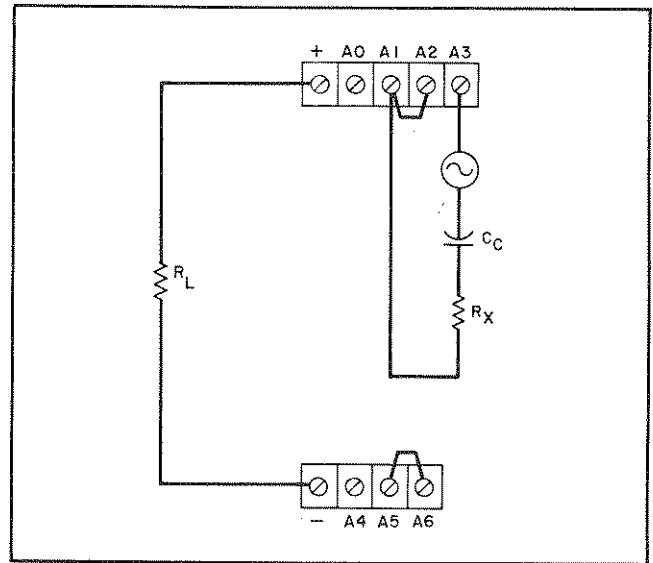

Figure 3-8. External AC Modulation
3-34 Figure 3-8 shows a method of superimposing an ac component on top of the adjustable dc output current of the supply. The dc current level is controlled in the normal fashion from the front panel, while the ac component of the output current is determined by the modulation percentage. The percentage of modulation is determined by the amplitude of the external voltage input and the value of the series resistance according to the following formula: $\% \text{ Modulation} = 100 \left[\frac{E_{\text{source}} (p-p)}{R_X} \right]$ (in K_{Ω}). The programming voltage appearing across terminals A1 and A3 should be limited to 10V p-p and must not exceed 12 volts if damage to the instrument is to be avoided. Using the above formula, the user would require an external resistance of $2K_{\Omega}$ and a 4 volts peak-to-peak input signal from the external source to modulate a dc current level of 50mA by 100%. In this case, the output current would swing between 100mA and zero amperes. The output current should never be
- Connect external modulation source, coupling capacitor, and series resistor between terminals A1 and A3 as shown in Figure 3-8.